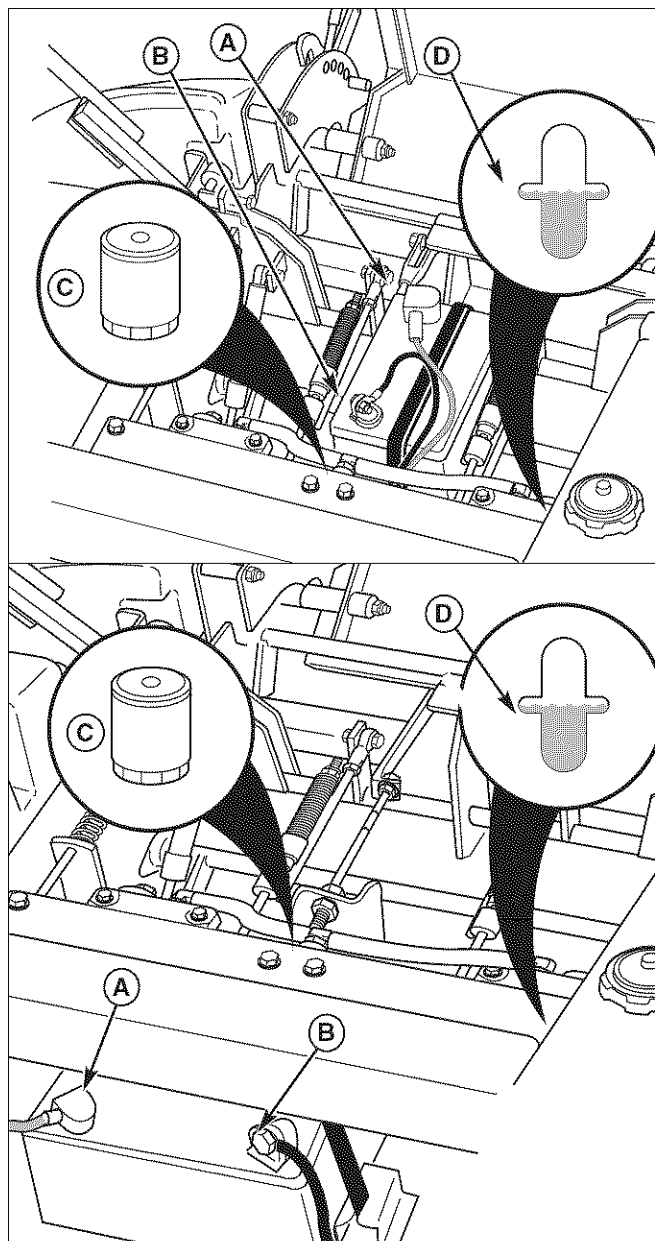

Figure 22. Battery Compartment
1. Check the oil level when the unit is cold. The inspection port is located on the inside of the right tank cover. The oil level should be within 1/2" (1.3 cm) of the horizontal level mark (D, Figure 22). If the oil is below this level, proceed to step 2.
3. Add oil up to the full mark (D, Figure 22).
1. Locate the transmission oil filter (C, Figure 22) at the rear of the battery compartment under the seat.
1. Disconnect the cables from the battery, negative cable first (B, Figure 22).
3. Reinstall the battery and reattach the battery cables, positive cable first (see A, Figure 22)